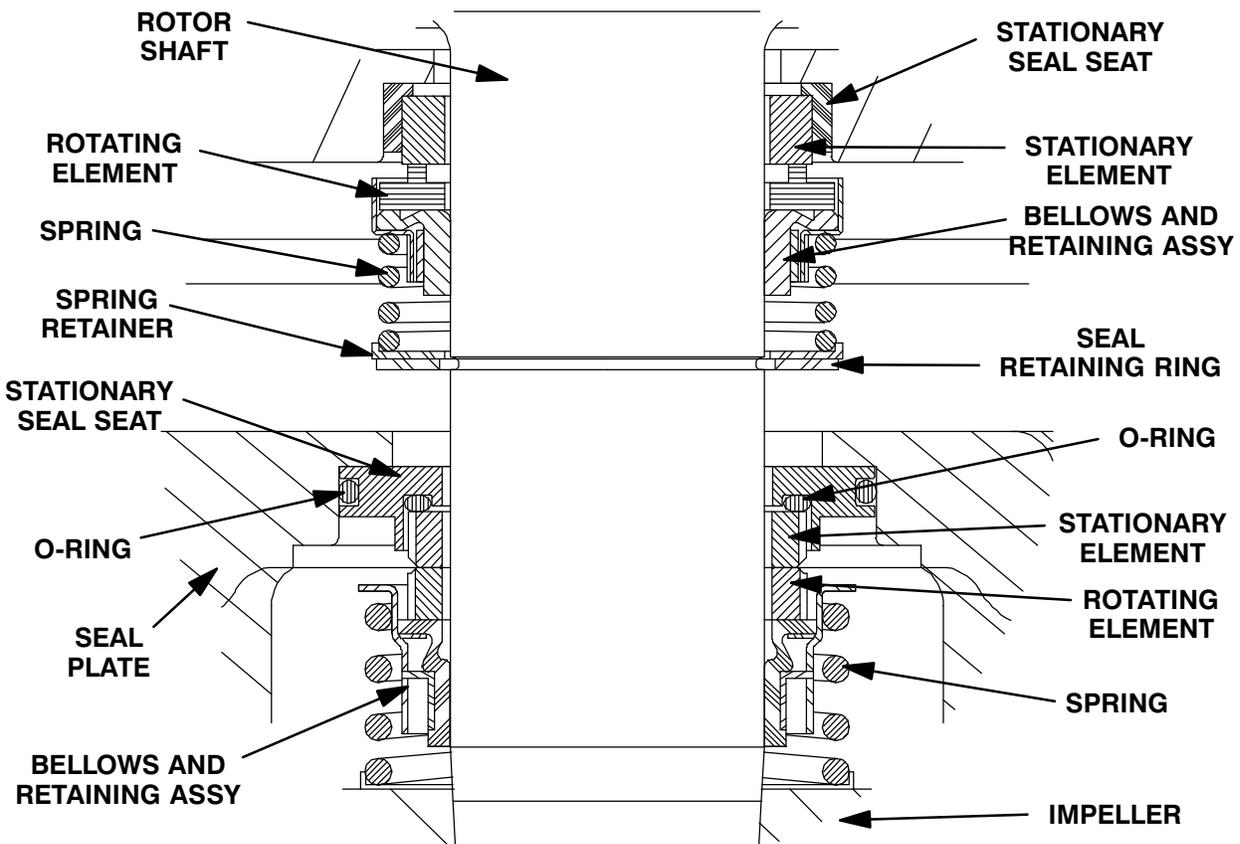

Figure C-4. Upper And Lower Seal Assemblies
Install the shaft seals as illustrated in Figure C-4.
Apply a **light** coating of oil to the seal seating surface on the shaft, the groove for the retaining ring (60), and I.D. of the bellows. Inspect the seal face to ensure that it is clean and dry. If cleaning is necessary, use a clean tissue to wipe in a circular pattern. Slide the seal rotating portion onto the lubricated shaft as shown in Figure C-4. Apply firm, steady pressure on the seal retainer until it slides down the shaft and the seal faces contact.
Slide the seal spring over the shaft and bellows retainer, and install the spring retainer. Install the seal retaining ring (60). See Figure C-4 for the proper order of seal assembly.
Slide the seal spring over the shaft and bellows retainer. See Figure C-4 for proper order of seal assembly.